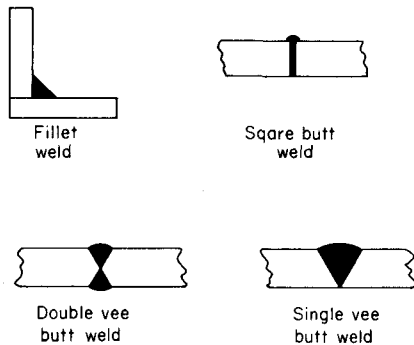

Fig. 3.150 Typical welded joints
**Welded joints.** Fig. 3.150 shows some typical welded joints.